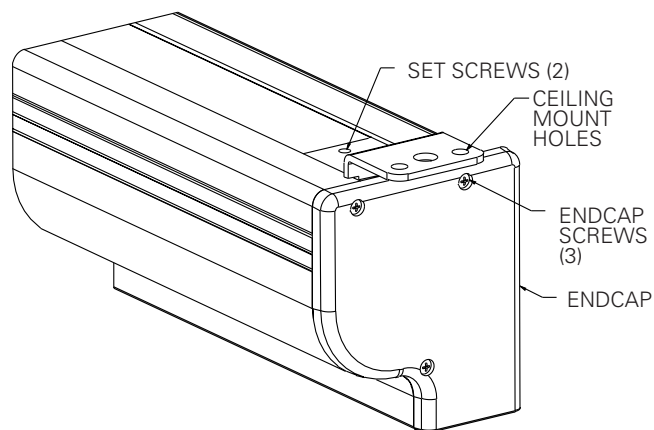

FIGURE 2
3. The top of the screen case has a channel that the ceiling mount brackets slide into. Remove the end cap on the right end of the case and insert the brackets into the case channel. Lock the brackets in place by tightening two set screws. Refer to figure 2. Mount cannot be more than 12" from end of case.